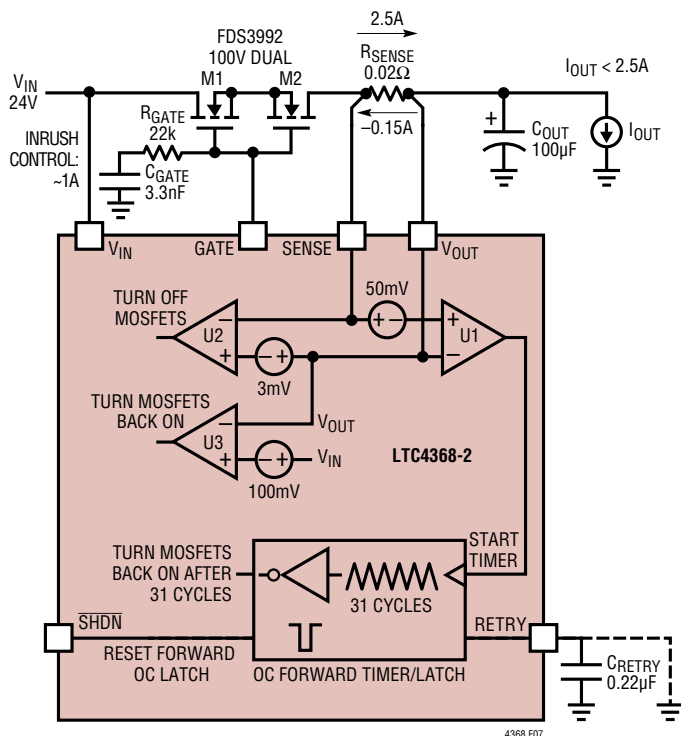
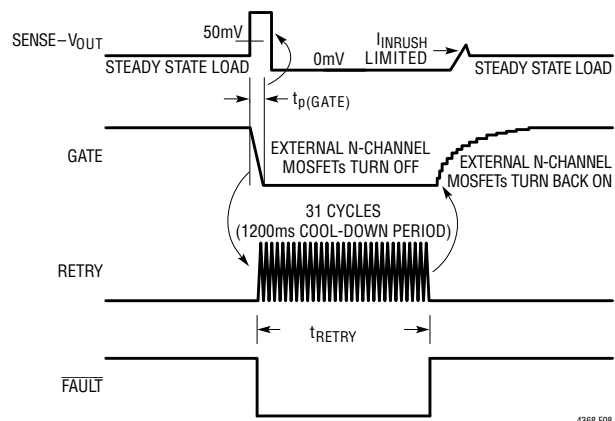

Figure 7. Overcurrent Comparators Monitor 2.5A/-0.15A Current Faults
Figure 8. Forward Overcurrent Fault with $0.22\mu\text{F}$ RETRY Capacitor
The 3.3nF C_{GATE} capacitor in the application circuit of Figure 7 limits the inrush current to just over 1A. R_{GATE} prevents C_{GATE} from slowing down the reverse polarity protection circuits. It also stabilizes the fast pull-down circuits and prevents chatter during fault conditions. Set R_{GATE} to 22k for most applications.
Forward overcurrent protection prevents large currents from flowing from V_{IN} to V_{OUT} . This threshold current is determined by the external sense resistor (R_{SENSE}) and an internal comparator (Figure 7, U1) with a 50mV threshold:
For the example of Figure 7, if 2.5A flows to the output across the $20\text{m}\Omega$ sense resistor, the external MOSFETs (M1, M2) are immediately ($8\mu\text{s}$) turned off. This disconnects the load from the input supply.
For the example of Figure 7, the 3.3nF GATE capacitor and the $100\mu\text{F}$ output capacitor limit the inrush current (I_{INRUSH}) to approximately 1A. This means that the output current (I_{OUT}) must be less than 1.5A during turn on in order to avoid a forward overcurrent fault during turn on. Once V_{OUT} has ramped to its final value, the output current is limited to 2.5A .
1. Automatically restart by placing an external capacitor on the RETRY pin. An internal cool-down timer will charge/discharge this capacitor 31 times with a 5.5ms/nF total delay. At the end of this delay, the external MOSFETs are turned back on, thus reconnecting the load to the input supply. The $0.22\mu\text{F}$ capacitor (C_{RETRY}) in the application of Figure 7 yields a 1200ms cool-down timer delay. Note that the adjustable cool-down period provides the user with a means of keeping the external MOSFETs within the rated SOA (safe operating area). See Figure 8 timing diagram.
Reverse overcurrent protection prevents large currents from flowing from V_{OUT} to V_{IN} . There are two options for reverse overcurrent protection thresholds. The LTC4368-1 (-50mV) bidirectional circuit breaker allows load current to flow in either direction: from V_{IN} to V_{OUT} or from V_{OUT} to V_{IN} . The LTC4368-2 provides diode-like behavior by making the reverse overcurrent threshold (-3mV) significantly smaller than the forward overcurrent threshold ($+50\text{mV}$). The reverse overcurrent fault threshold is determined by the external sense resistor (R_{SENSE}) and an internal comparator (Figure 7, U2). For the LTC4368-2 application of Figure 7:
To turn the MOSFETs back on, an internal comparator (Figure 7, U3) detects when V_{OUT} drops 100mV below V_{IN} :